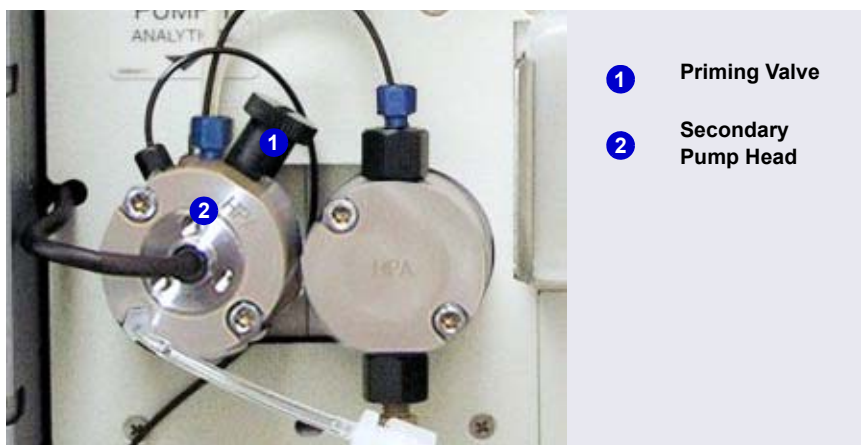

Figure 9-11. DP/SP Priming Valve
6. The priming valve knob is located on the secondary pump head (see Figure 9-11). To remove the knob, turn it counterclockwise all the way and then pull it straight off the pump head.